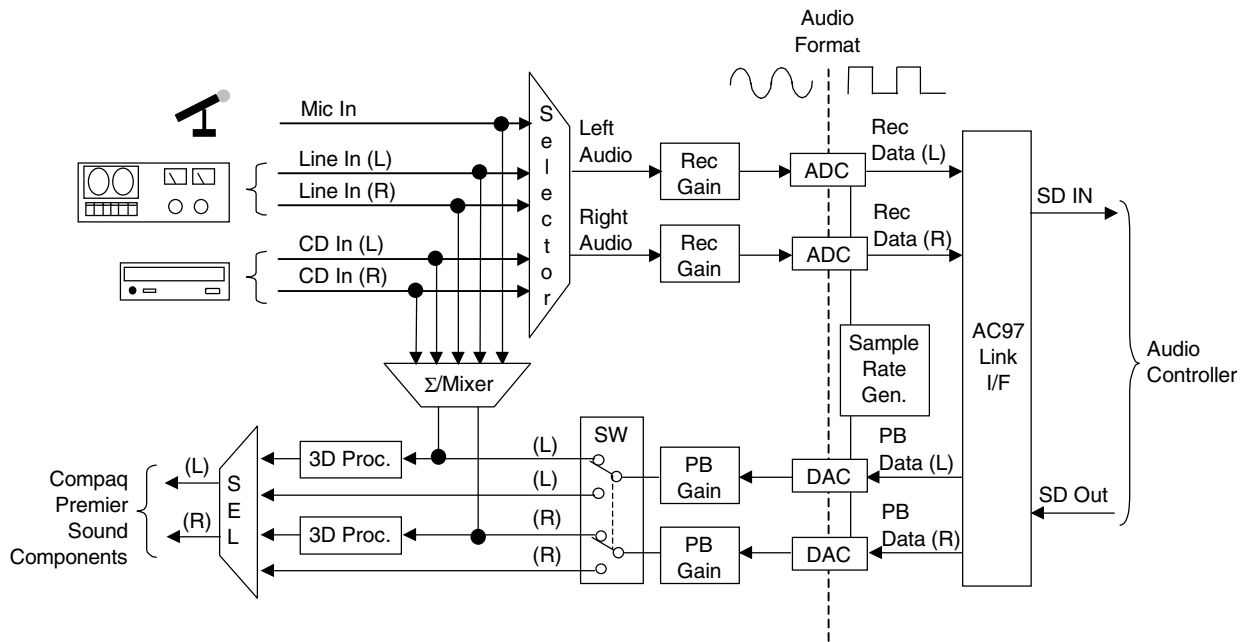

Figure 5-13. AD1881 Audio Codec Functional Block Diagram
The audio codec provides pulse code modulation (PCM) coding and decoding of audio information as well as the selection and/or mixing of analog channels. As shown in Figure 5-13, analog audio from a microphone, tape, or CD can be selected and, if to be recorded (saved) onto a disk drive, routed through an analog-to-digital converter (ADC). The resulting left and right PCM record data are muxed into a time-division-multiplexed (TDM) data stream (SD IN signal) that is routed to the audio controller. Playback (PB) audio takes the reverse path from the audio controller to the audio codec as SD OUT data and is decoded and processed by the digital-to-analog converter (DAC). The codec supports simultaneous record and playback of stereo (left and right) audio. The Sample Rate Generator may be set for sampling frequencies up to 48 KHz.